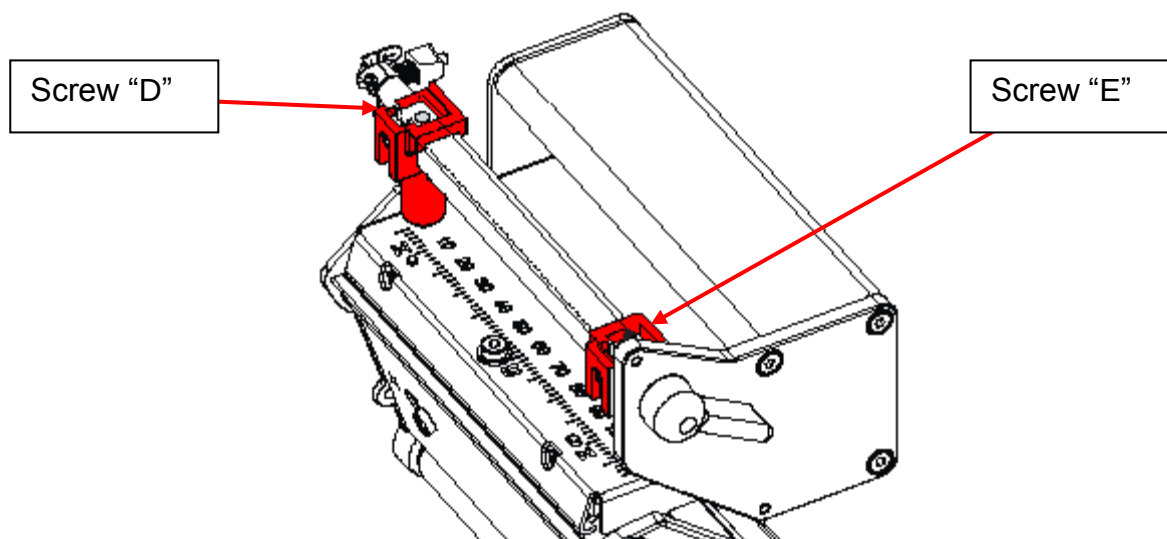

Figure 8 - Printhead pressure adjust
4.1. To configure the print head pressure, loosen the grub crews holding the pressure toggles, (see Figure 3) and slide both pressure toggles to their receptive left and right limits, see figure 8. This will align the printhead pressure adjustment holes through the printhead locking bar.